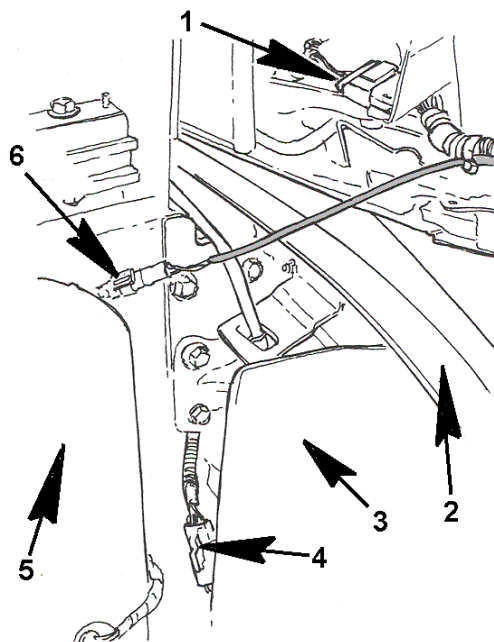
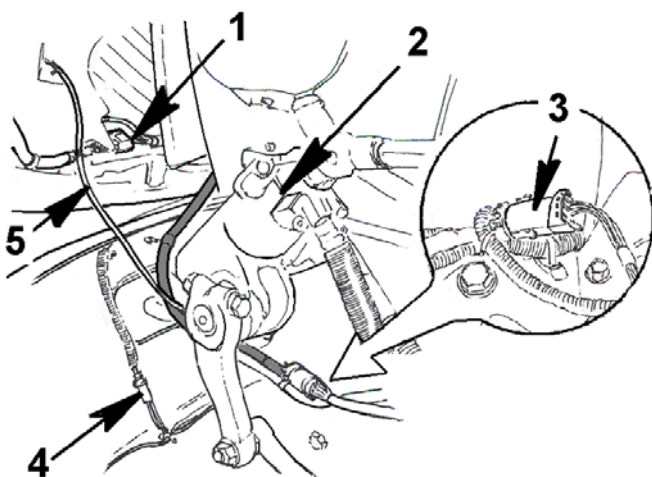

Figure 24 Harness Connections (Passenger Side Shown)
Figure 25 Harness Connection (Driver Side Shown)
2. Unlatch the hood latches each side, tilt the hood forward. Locate and disconnect the power unit harness plug to the gate motor assembly on the passenger side of the bumper assembly (Figure 85, Item 5). Locate the hood harness and chassis harness connection located on the driver side along side of the power steering gear (Figure 25, Item 1). Disconnect the chassis harness from the hood harness.
4. If the chassis is equipped with heated cross-view mirrors, the mirror heater connection harness (Figure 25, Item 5) on the driver side, and (Figure 24, Item 4) on the passenger side must be disconnected each side .
5. Recheck all harness connections. The hood harness stays with the hood assembly when hood is removed. The safety gate power unit harness connection (Figure 25, Item 4) and the electro magnetic safety gate bumper stop harness remains with the bumper assembly.